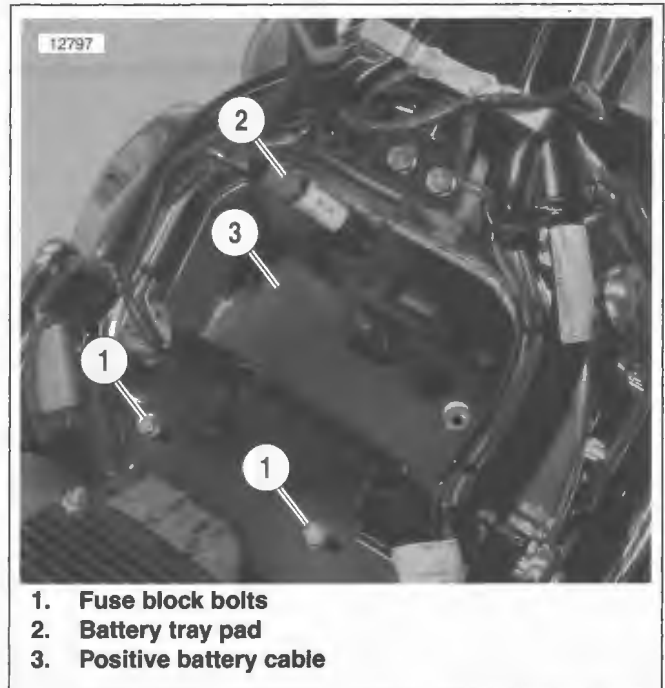

Figure 3-168. Positive Battery Cable
2. Install two screws (25) from back side of tank.
3. Install **new** clamp (7) to attach oil feed hose (8).
4. Position drain hose outboard of the electrical panel and inboard of the brake line and frame harness. Attach drain hose clamp (2) to frame.
6. See Figure 3-168. Install two bolts (1) to attach fuse block bracket.